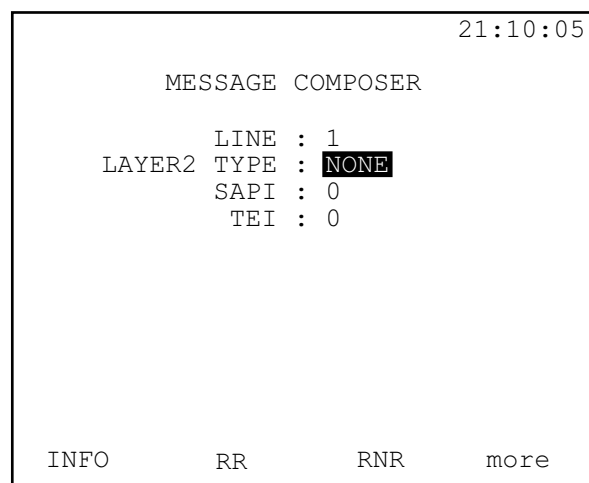

Figure 133 Message Composer
2. Displayed in to Figure 133 is the MESSAGE COMPOSER screen.
4. Make the following selections if selecting the INFO key from Figure 133.